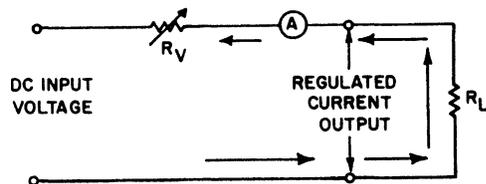

Fig 4-40. Current regulator.
**Current regulators.** You should now know how voltage regulators work to provide constant output voltage. In some circuits it may be necessary to regulate the current output. The circuitry which provides a constant current output is called a constant current regulator or just CURRENT REGULATOR. The schematic shown in figure 4-40 is a simplified schematic for a current regulator. The variable resistor shown on the schematic is used to illustrate the concept of current regulation. You should know from your study of voltage regulators that a variable resistor does not respond quickly enough to compensate for the changes. Notice that an ammeter has been included in this circuit to indicate that the circuit shown is that of a current regulator. When the circuit functions properly, the current reading of the ammeter remains constant. In this case the variable resistor ( $R_V$ ) compensates for changes in the load or d.c. input voltage. Adequate current regulation results in the loss of voltage regulation. Studying the schematic shown, you should recall that any increase in load resistance causes a drop in current. To maintain a constant current flow, the resistance of  $R_V$  must be reduced whenever the load resistance increases. This causes the total resistance to remain constant. An increase in the input voltage must be compensated for by an increase in the resistance of  $R_V$ , thereby maintaining a constant current flow. The operation of a current regulator is similar to that of a voltage regulator. The basic difference is that one regulates current and the other regulates voltage.
9. In figure 4-40, when there is an increase in the load resistance ( $R_L$ ), the resistance of  $R_V$  \_\_\_\_\_ to compensate for the change.